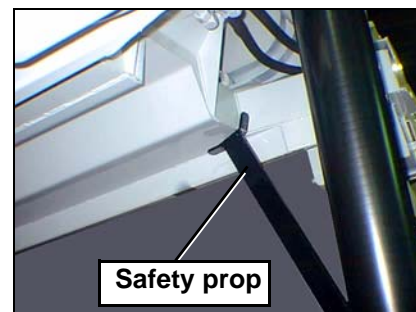

Figure 138. Body safety prop
4. Slowly lower the body so it rests properly on the prop (see Figure 138. “Body safety prop”).